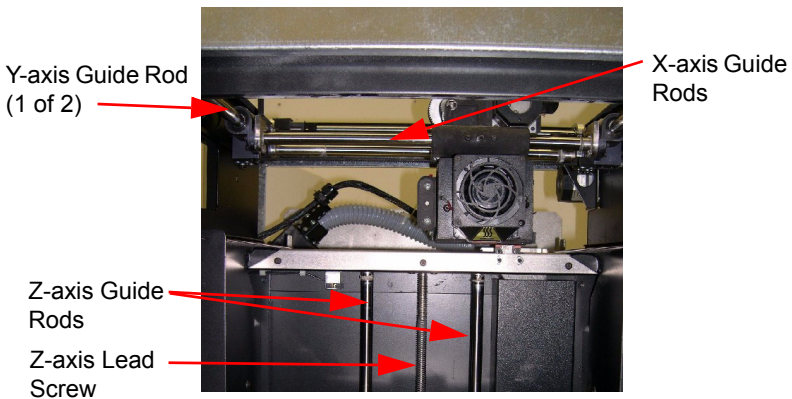

Figure 14: Lead screw and guide rod identification
1. Clean and lubricate the Z-axis lead screw (*drive screw*), X-axis guide rods (2), Y-axis guide rods (2), and Z-axis guide rods (2). See Figure 14 for locations.